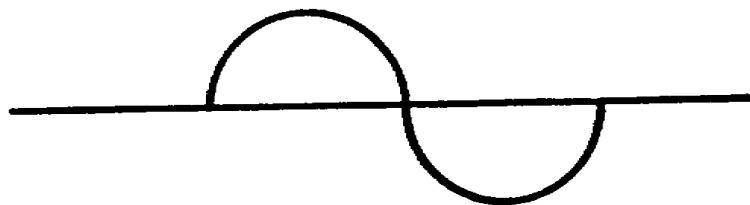

Figure 1-6. Sine wave
a. The oscilloscope provides an electronic translation of what the sound wave looks like. Should the sound be a pure tone, (a single frequency), then the oscilloscope will show an even pattern (fig 1-6).